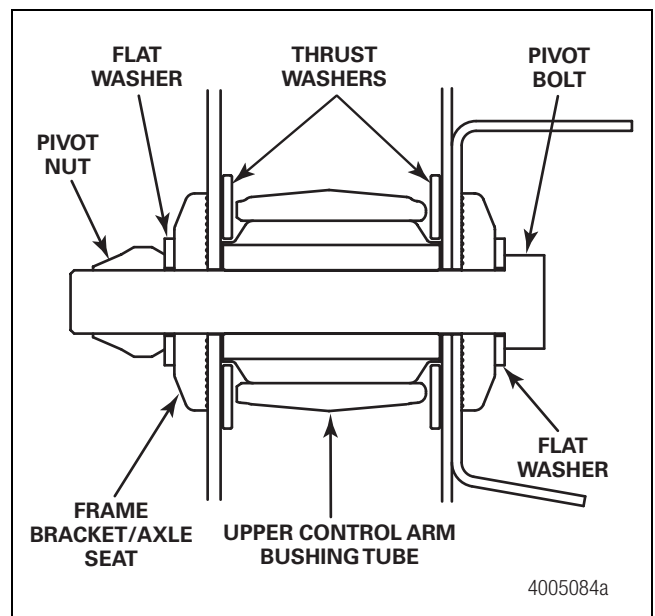

Figure 9
17. Position the upper control arm into the frame brackets. Ensure that the thrust washers attached to the bonded bushing remain in position. Using the recorded pivot bolt orientation, insert a new pivot bolt, flat washers, alignment washers and nut on the roadside. Insert a new pivot bolt, flat washers and nut on the curbside. Figure 9.